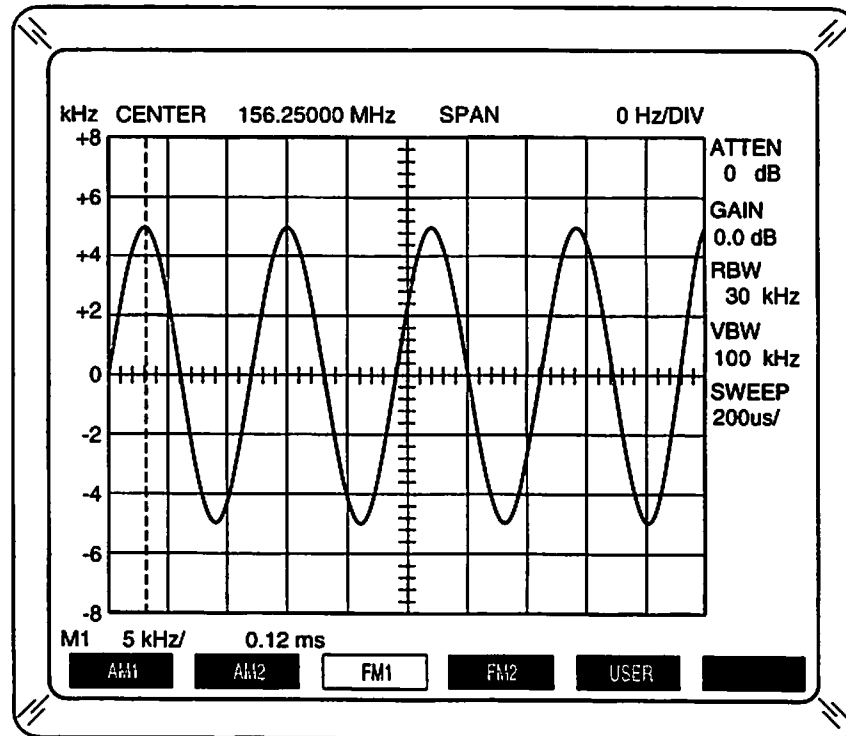

Figure 4-13 FM1 Demodulation Screen
9. Note FM deviation. Refer to Figure 4-13.